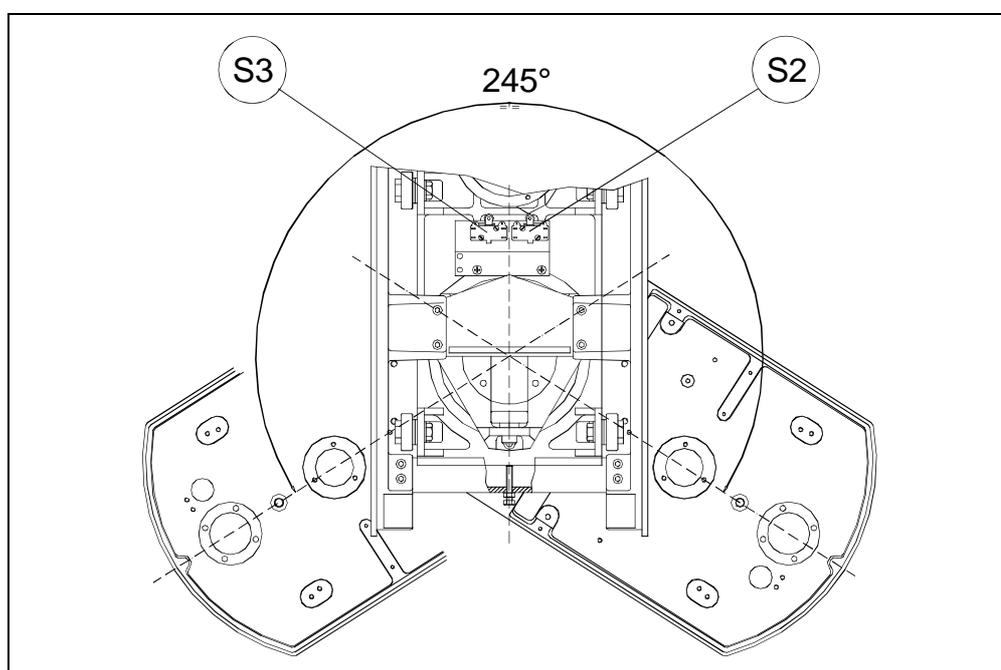

Figure 7-5
Another possible cause is the failure of one of the start/stop rotation microswitch S2/S3 (see Figure 7-5). Check the microswitch and/or connections.
2. Manually move gently the rotating arm to the 0° position, until reaching the relevant microswitch S2 (see Figure 7-5).
8. Press "**R**" key (32; Reset); the arm will rotate up to reach the 0° position.
9. Switch OFF the unit; switch it back ON by activating the set-up function (see above Note 2) and press the "**T**" (31) button: the display will show A/D followed by a number; press the "**decrease**" key (40) to store the value corresponding to the 0° position.
10. Press "**T**" (31) key to store the value.
11. Rotate the arm by pressing and holding the "**T**" (31) key checking that the end run angle reached is 245°.